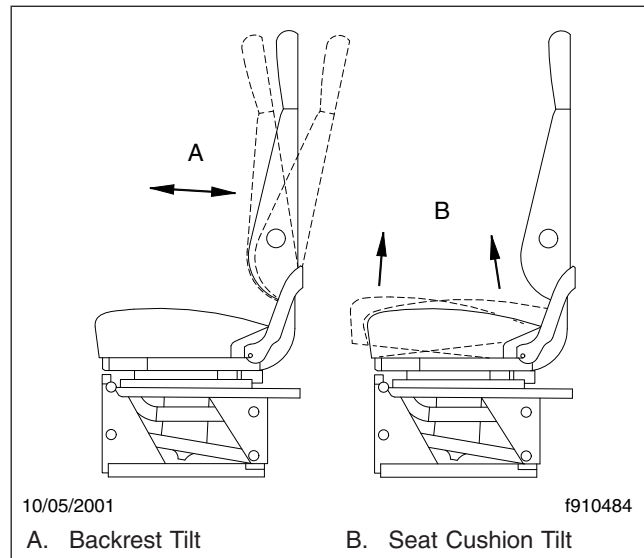

Fig. 5.18, Cushion Tilt Adjustments
5. Backrest Tilt: This adjustment pivots the backrest forward or backward. See Fig. 5.18.
6. Seat Cushion Tilt: This adjustment raises or lowers the front and/or back of the seat bottom cushion. This adjustment is easier to perform when all weight is removed from the seat. See Fig. 5.18.
7. Seat Tilt: When this adjustment is made, the seat assembly, both backrest and seat cushion, tilts forward or backward. See Fig. 5.18.